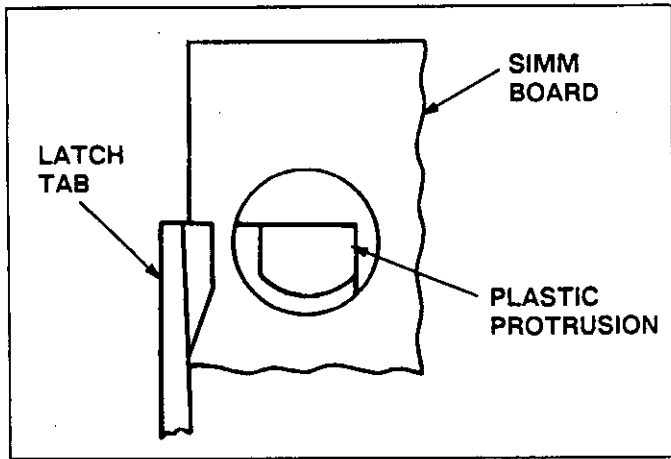

Fig. 3 89-125
4. Maintaining an even pressure over the length of the module board and rotate the module board forward until the edges of the board ends snap behind the latch tabs of the connector. A slight force may be required to engage the latch tabs at both ends of the connector with the latches engaging simultaneously. See Figure 3.